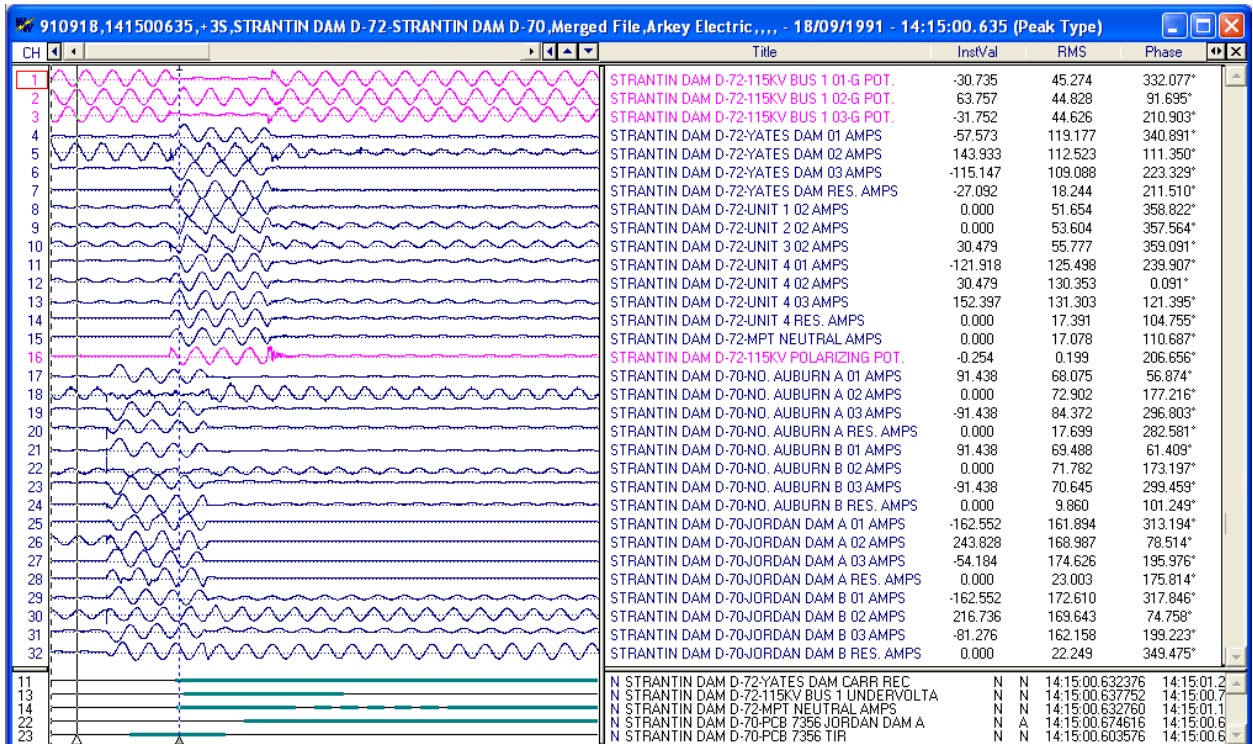

Figure 1.36 Merge Waveform Files By Sample
- By Sample: Merge regardless of time stamps. The reference time is from the first marked file. And the file with the least amount of samples determines the length of the file. Refer to Figure 1.36.